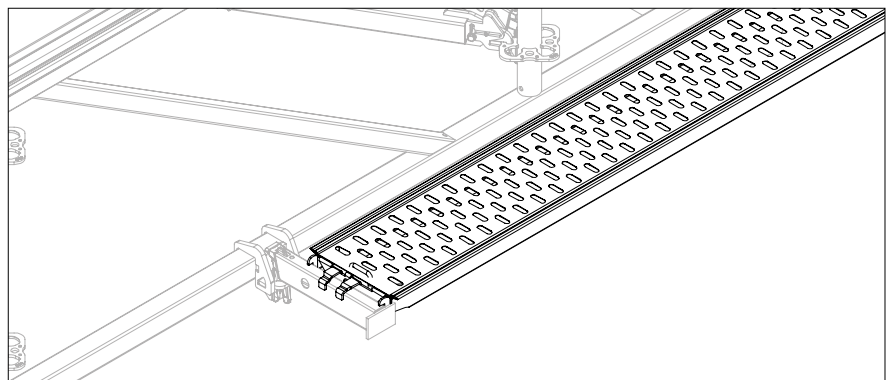

Fig. A11.11
4. Fit the Steel Decks UDG-2 (**58**). (Fig. A11.11)